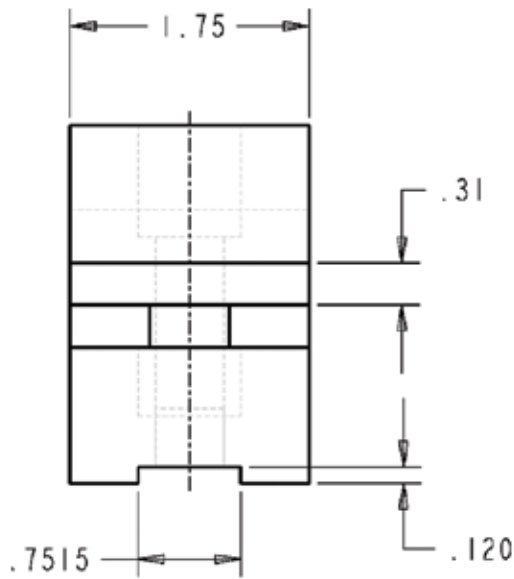
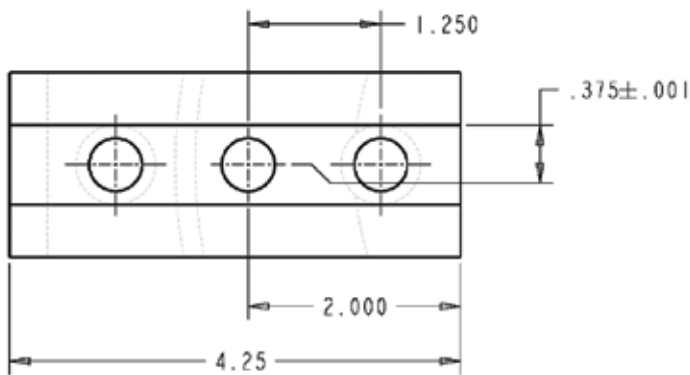

Figure 11-13c
Figure 11-13d
Step 9: Once the three basic views are constructed, draw the bottom view. Refer to Figure 11-8b for helpful dimensions on detailing the bottom view. Note the $.7500 \pm .0005$ dimension for the Key’s width and the slot feature in Figure 11-13c with the $.7515$ dimension. This slot feature will aid in locating the part on the Key. See Figure 11-13d for the dimension values that locate the hole for the $\varnothing .500$ dowel on the Key and the starting location for one of the through holes for the fastening hardware.